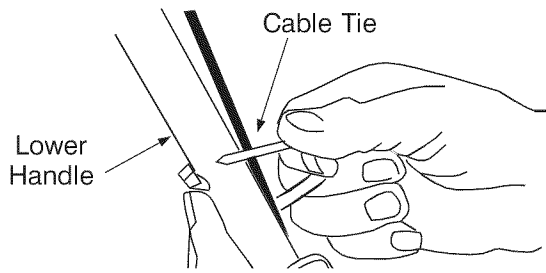

Figure 5
- Fasten the cable to the lower handle with the cable ties found on the lower handle. Pull the cable ties tight and trim off the excess. See Figure 5.